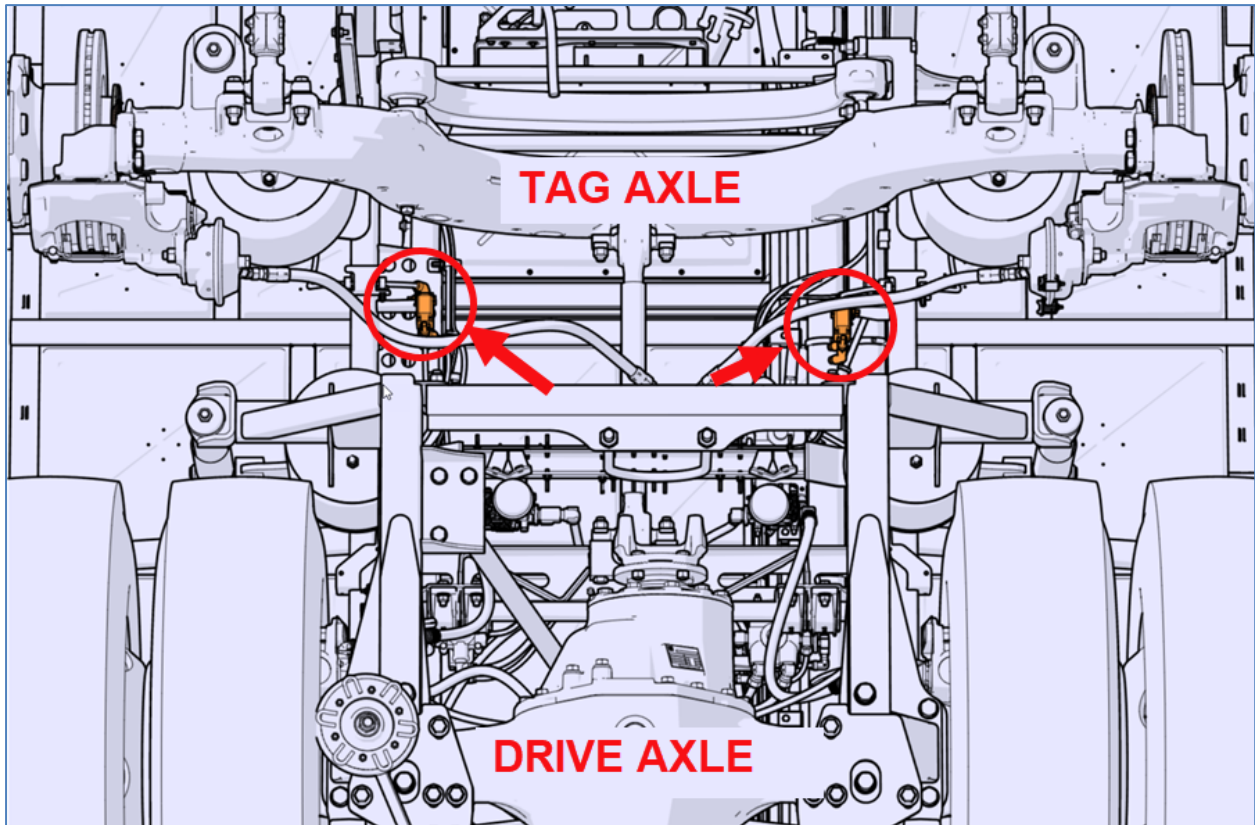
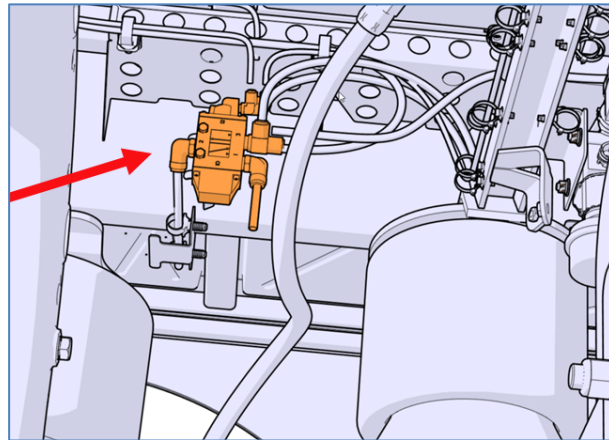

Figure 5: IDENTIFICATION OF THE TWO VALVES INVOLVED (SEEN FROM UNDER THE VEHICLE)
Figure 7: STREET SIDE VALVE
8) Refer to Figure 5 - Figure 7 to identify the two valves involved.